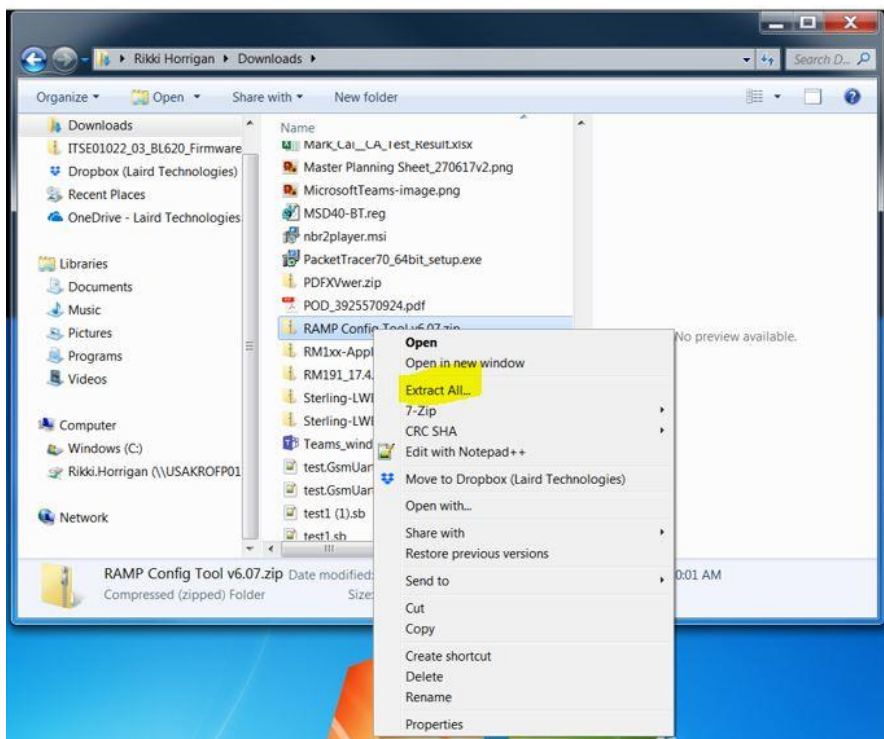

Figure 1: Extract All
1. Once the files have been downloaded, extract them (right-click on file and select "Extract All ") as shown in Figure 1.